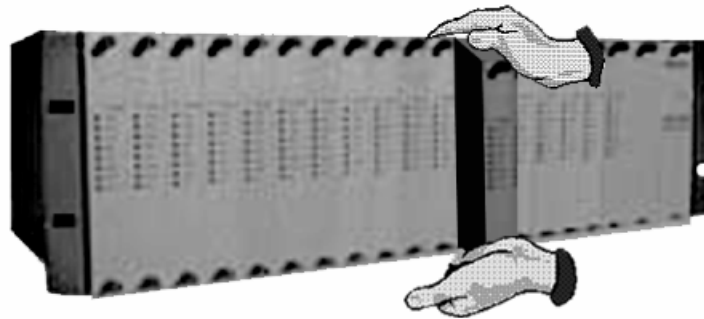

Figure 2-3. Installing the Modem
5. Install the modem into the selected slot in the modem cage or modem rack (see Figure 2-3).